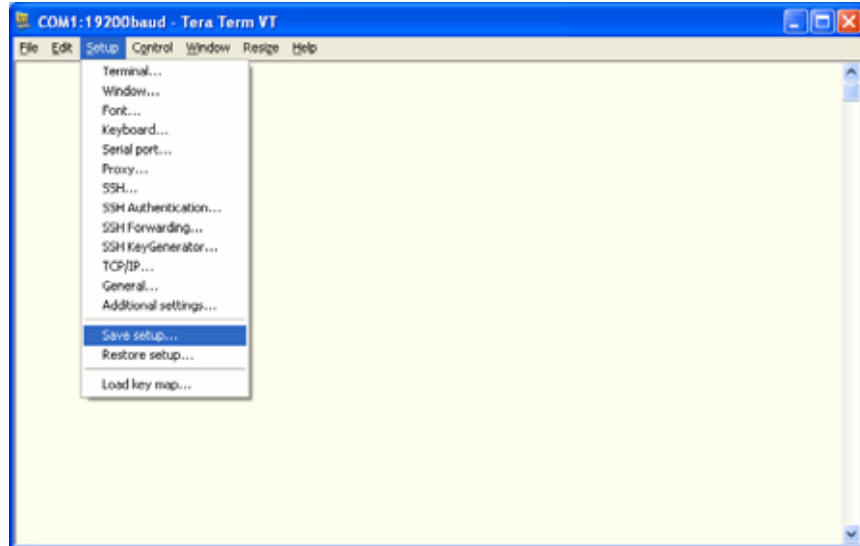

Figure 6-21: Saving the Tera Term Setup
23. Select **Setup**, then click **Save setup** (Figure 6-21).